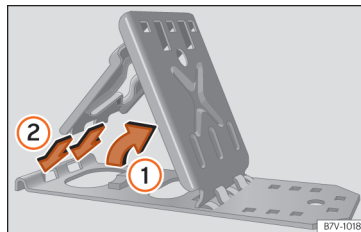

Fig. 40 To unfold the foldable wedges.
- Lift the base plate » **Fig. 40 ①**.